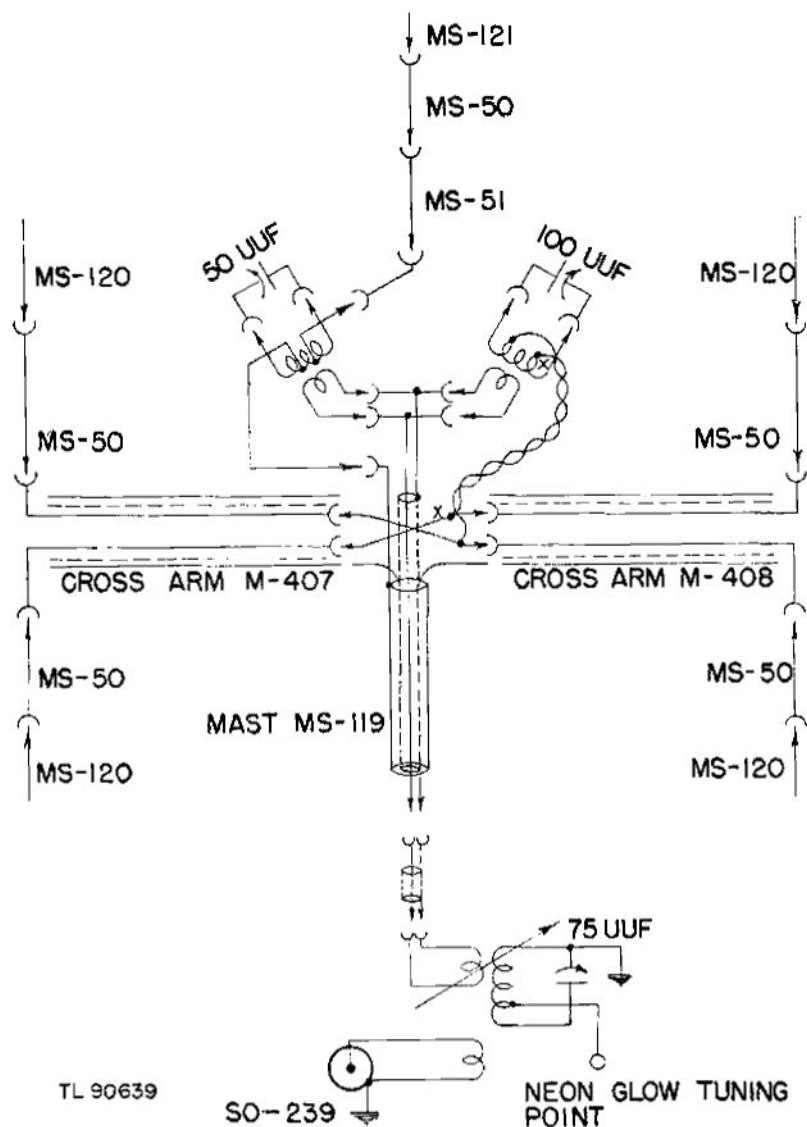

Figure 35. Schematic diagram of antenna array.
b. The output of the transmitter of Radio Set SCR-508-(&) or Radio Set SCR-608-(&) is carried through a coaxial r-f line into an antenna-coupler or resonance tuner. A stationary link terminates the transmitter output and provides an inductive r-f source coupled to a stationary secondary winding. This antenna coupler, when tuned to resonance, provides ample r-f energy to energize a loosely coupled rotating link. The link, mounted by a connector, is fixed in axis and carries the r-f energy through the beacon rotating stub axle. The stub axle is engaged by the mast which has a continuation of the r-f coaxial line. The center portion of the mast acts as a physical support for the array, and the insulated portion also radiates as a part of the vertical dipole output (fig. 35).
39. RESONANCE TUNER BC-1305. (fig. 35). The electrical components of the resonance tuner consists of a 2-inch phenolic form, mounted by an 8-32 screw and nut. Oversized mounting holes allow centering the rotating link in the form. The form has two windings. Two turns of No. 18 copper wire are used as an inductive termination load for Radio Set SCR-508-(&) or SCR-608-(&). This inductive termination winding is wound close to a 4-turn No. 16 copper wire secondary, tuned by a 75-u uf variable capacitor. The secondary provides a concentrated r-f radiating tank circuit for the 2-turn rotating link which rotates within the form. A connection at a high-voltage point of the secondary winding terminates in a screw head in a circular piece of polystyrene insulation and provides a point of contact for neon glow lamp tuning (fig. 14).